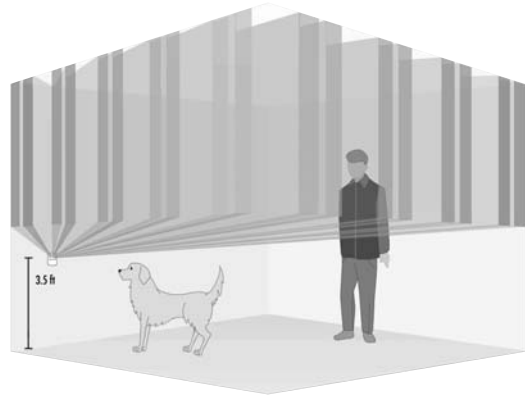

Figure 3. Pet Alley Application
- For installations where pets are present, mount the sensor upside down about 3.5 feet above the floor (see Figure 3). Leave the factory-installed undercrawl mask in place to block any detection pattern directed at the ceiling